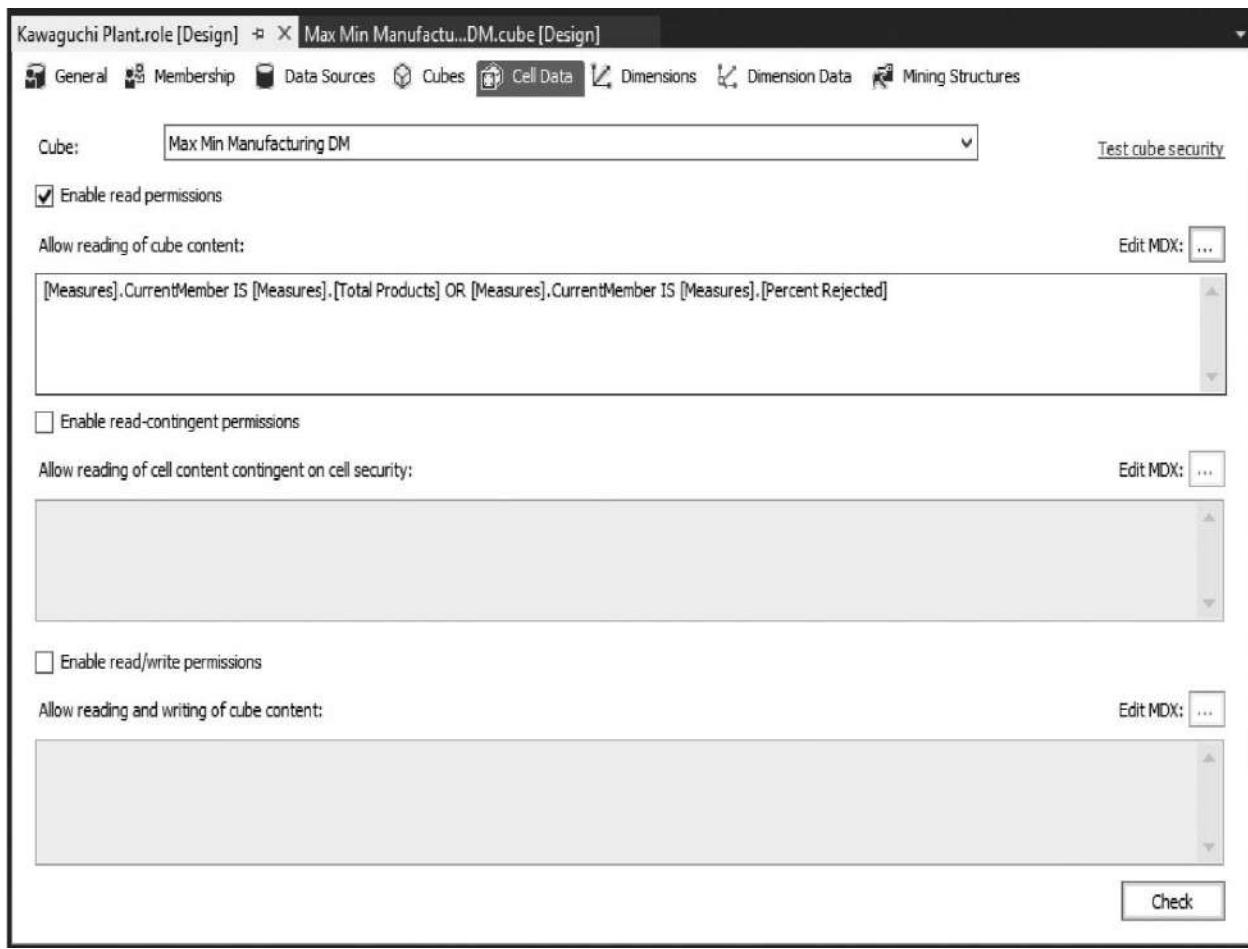

Figure 13-24 The Cell Data tab of the Role Design tab
- When creating expressions here, you can click the button next to Edit MDX to use the MDX Builder dialog box for assistance in building your MDX expressions. The Cell Data tab of the Role Design tab should appear as shown in Figure 13-24.